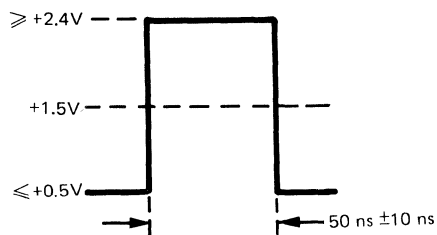

Figure 4-14. Trigger Output Pulse
- Press TRACE key and verify the presence of a positive pulse with a high level of greater than or equal to +2.4 volts and a low level of less than or equal to +0.5 volts. Pulse width at the 1.5 volt level should be 50 ns $\pm$ 10 ns (see figure 4-14).